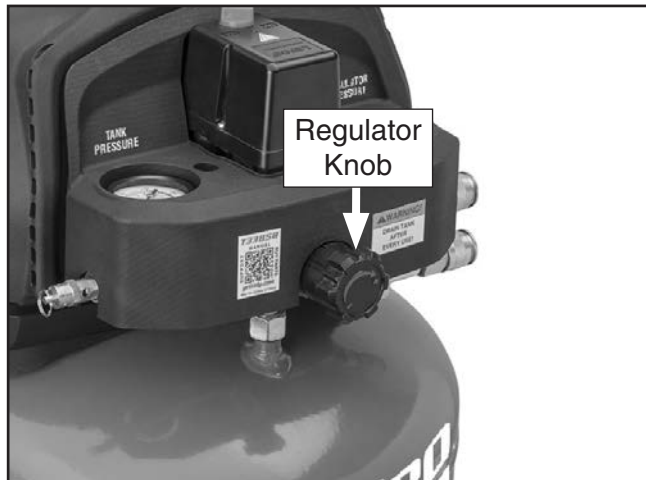

Figure 17. Location of regulator knob.
1. Turn regulator knob (see **Figure 17**) all the way counterclockwise.